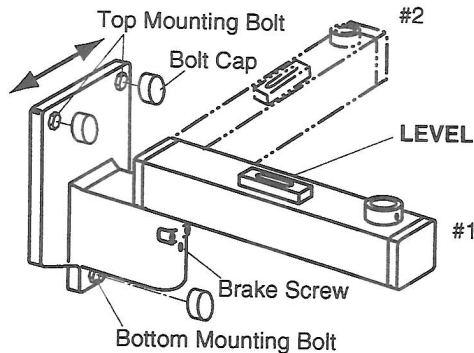

FIGURE 4
2. Set the horizontal arm at right angle to the wall and confirm neither horizontal arm nor balance arm drift. (FIGURE 4)